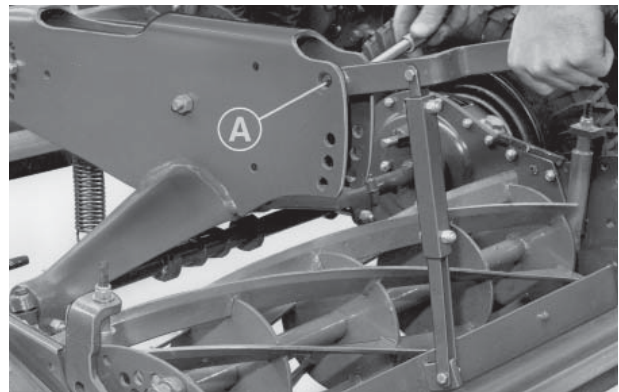

Fig 26
- 2 (Fig. 26). When trailed gang mowers are moved along paths or roads the rear rolls must be raised clear of the ground by locking the lifting lever in the top hole (A) of the unit frame.